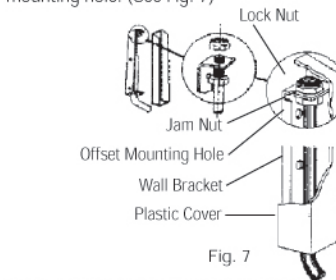

Fig. 7
2.7-Pick up the wall bracket. Hold it in front of you in the vertical position. Note that the hole at one end is offset closer to the center than is the hole at other end. The lock and jam nuts must **always** attach to the end of the wall bracket that has the offset mounting hole. (See Fig. 7)